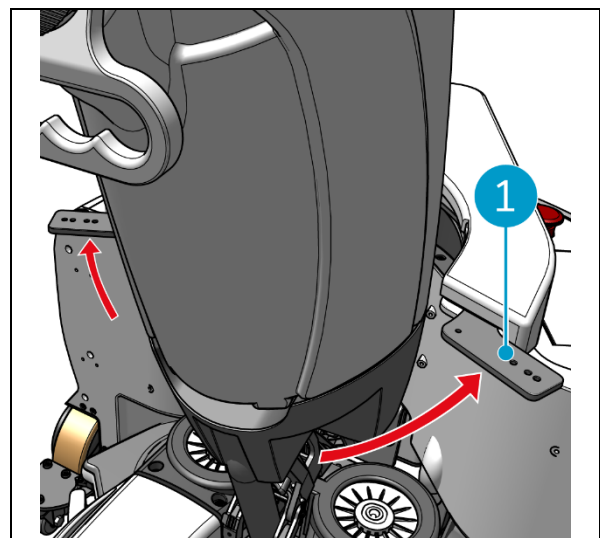

Figure 45
3. Unlock the fix ring on the i-walk (Figure 45, pos. 1).